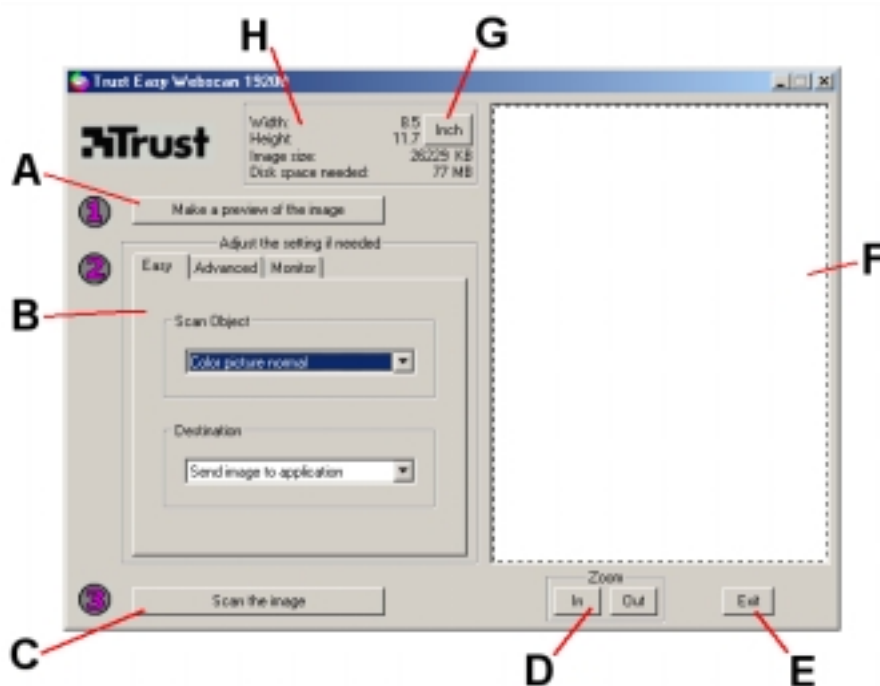
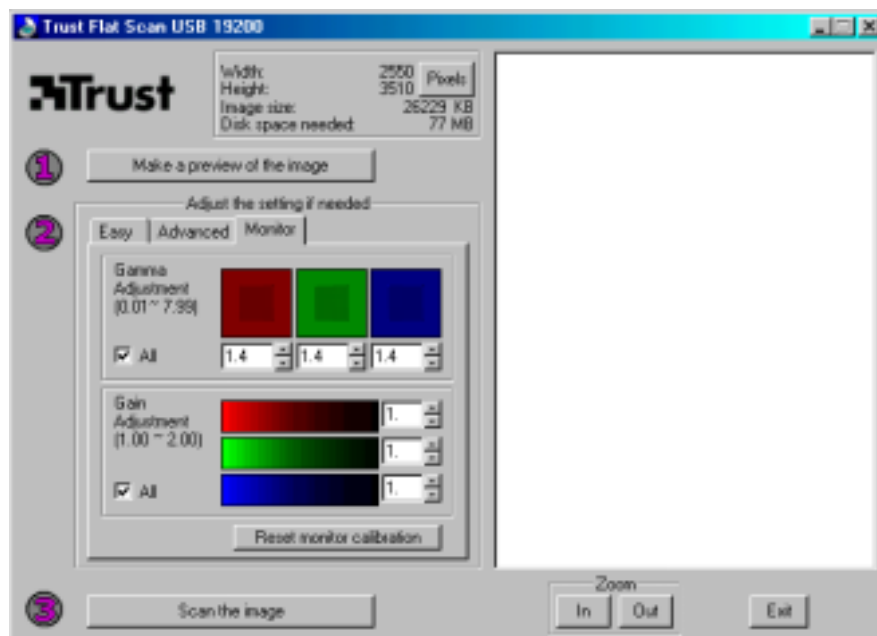

Figure 16: TWAIN main menu, easy user settings
Figure 19: Monitor calibration
Go to 'Start - Programs - Trust – Easy Webscan 19200' and select 'Easy Webscan'. The TWAIN main screen will appear after a short period needed for scanner calibration. See figure 16.
In the TWAIN main screen (see figure 16), click on the 'Monitor' menu. A screen similar to figure 19 will appear. This window enables you to change the hue of the scanned image. When printing the scanned image, exactly the same colour hues are presented as the changes in this window.
To create a scan follow steps below. See also figure 16 for this.
8. On the TWAIN interface screen, click on the 'Make a preview of the image' button to create a scan preview of the image on the glass plate. This will appear in the window on the right. See figure 16.